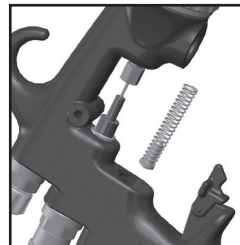

Fig. 17
4. Remove spring with spring pad. (See fig 17)
8. Replace spring ensuring the end with the plastic bearing pad goes in first. (See fig 17)